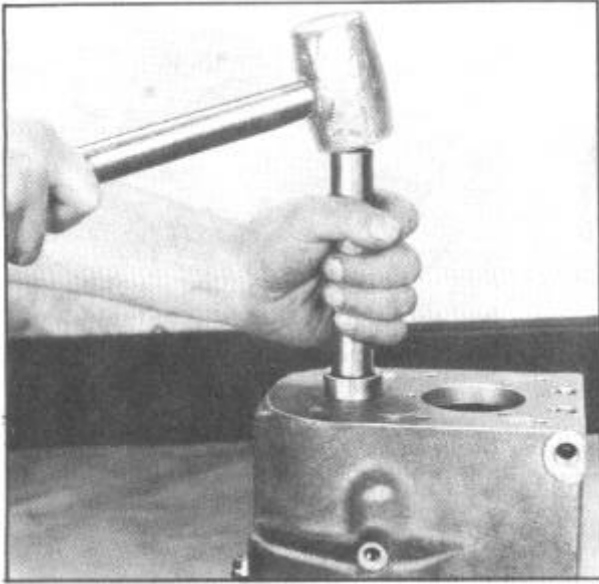

Figure 9--Removing and Replacing Countershaft Bushings with J-450 Bushing Driver and J-780 Bushing Replacer
1. Drive out old bushings which are steel-backed bearing metal with bushing tool J-450 and replace new bushings with bushing replacer tool J-780 as shown in Figure 9.
J-488 which is hand operated as shown in Figure 9 and 12.